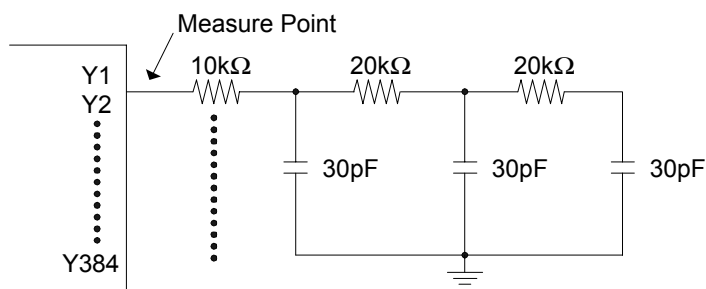

Figure 6. Yout load condition
- (1). $V_{CMRSDS} = +1.1V$, $V_{DIFFRSDS} = V_{RSDSP} - V_{RSDSN} = \pm 200mV$
- (2). The value is specified when the drive voltage value reaches the target output voltage level of 90%
- (3). The value is specified when the drive voltage value reaches the target output voltage level of 6-bit accuracy.
- (4). Yout load condition (refer to Figure 6)